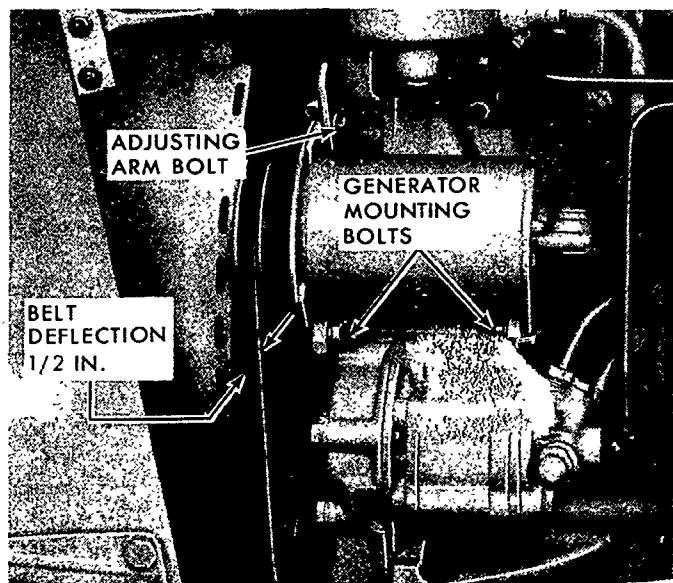

Figure 10
1. Unscrew the Proof-Meter drive cable from the Proof-Meter drive housing. See Figure 10.
1. Position the generator on the generator bracket, Figure 10.